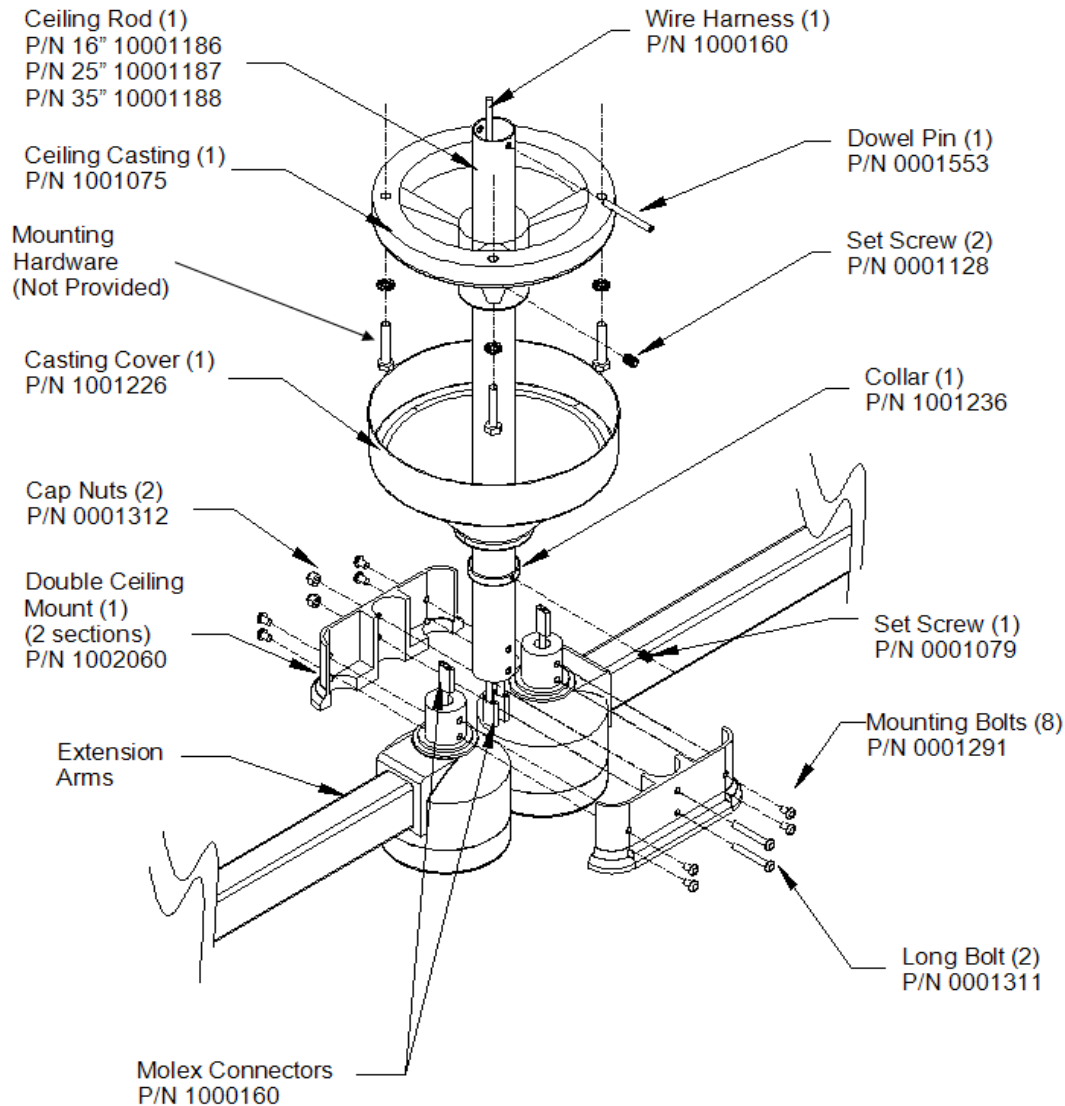

Figure 9: Double Ceiling Mount Installation
- Insert the ceiling rod up through the ceiling casting until the hole in the ceiling rod becomes visible (see **Figure 9: "Double Ceiling Mount Installation"**). Insert the dowel pin into the hole in the ceiling rod and lower the rod in the ceiling casting, making sure the pin is seated securely in the indentation on the ceiling casting. Securely tighten the two set-screws located in the casting.
- Position the two extension arms as shown in Figure 9: "Double Ceiling Mount Installation" to allow for easier mounting of the remaining double mount section. Firmly press the fastened double ceiling mount section against the ceiling rod. While firmly holding the double ceiling mount section with arms attached in place, remove only the cap nuts from the 2" long bolts. It is strongly recommended that a second person hold the arms in place while the nuts are removed. Place the remaining double ceiling mount section onto the bolts. Be sure the wires are enclosed within the wire channel to avoid pinching them. Replace the cap nuts and fully tighten. Install the remaining four 3/8" long mounting screws and then fully tighten all eight screws.